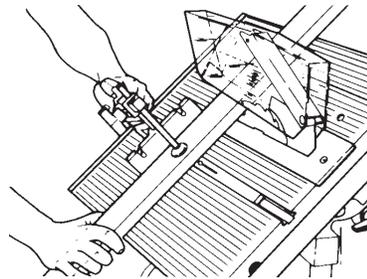
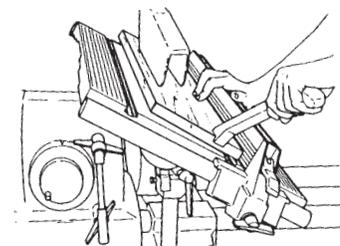

Figure D-12
Figure D-13
3. Slide the carriage and the headstock all the way to the right and set the table at the desired angle. If you're crosscutting a bevel, mount the miter gauge on the down side of the table. See Figure D-12. If you're ripping a bevel, mount the rip fence on the down side of the table. See Figure D-13.